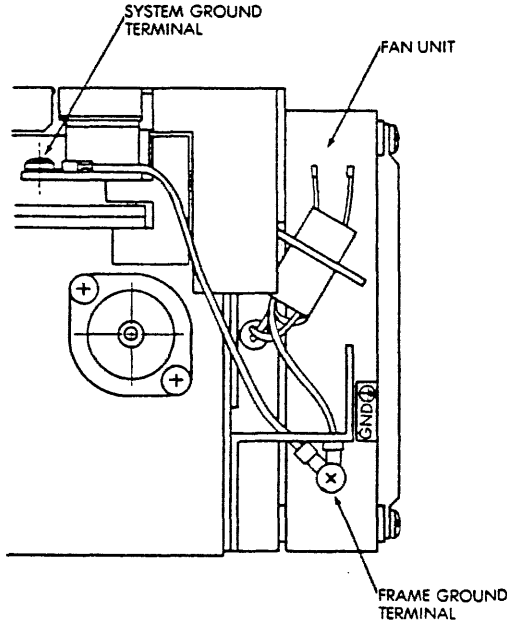

Figure 6-2. 9733 Signal Ground to Frame Ground Jumper
The signal ground (SG) and frame ground (FG) are isolated in this drive. If it is necessary to connect the two, this can be done by using the SG grounding lug at the back of the drive. Normally, SG to FG connection is made by a jumper strap on the ground terminal strip of the power supply (Figure 6-2).